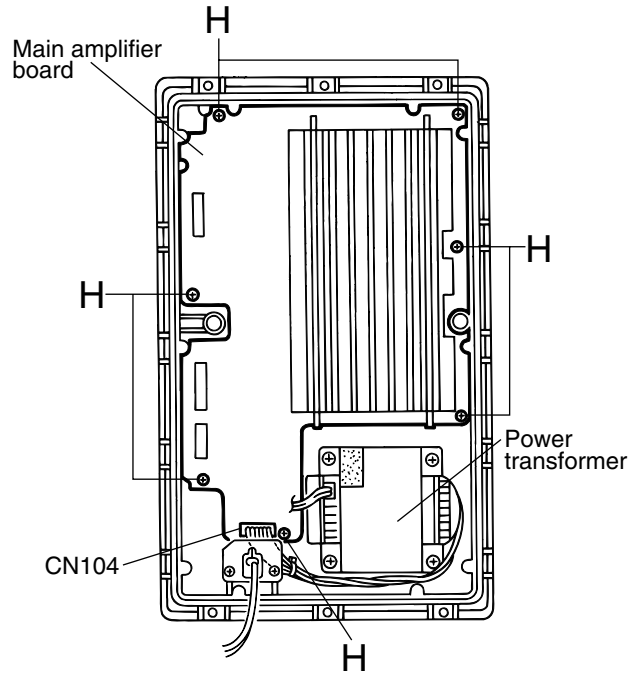

Fig.7
■ Removing the Main amplifier Board (See Figs.7 and 8)
3. Remove the two screws I attaching the power amplifier board (A) and the two screws J attaching the power amplifier board (B) on the underside of the main amplifier board.
4. Disconnect connector CN102 and CN103 on the power amplifier board (A) and CN105 and CN106 on the power amplifier board (B) from the main amplifier board respectively.